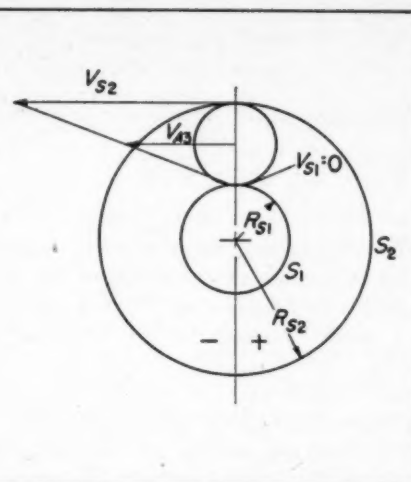

Fig. 5—Linear velocities in planetary gear system for zero speed of the output sun gear  $S_1$
**Motion of Cage:** From Fig. 5,  $\omega_{s1} = 0$  and  $V_{s1} = 0$ , therefore  $-V_{s2} = -2V_{A3}$  and  $V_{A3} = V_{s2}/2$ . Dividing by the center distance  $R_A$ .